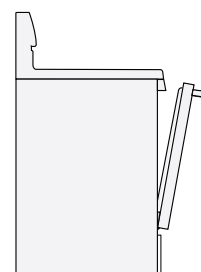

Figure 10: Broil stop position
2. Position cookware in oven. Leave oven door open at broil stop position when broiling (See Figure 10).